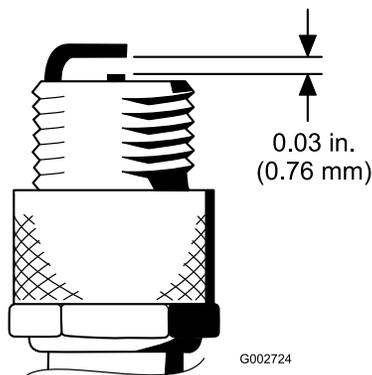

Figure 43
- Set the air gap between the center and side of the electrodes at 0.76 mm (0.030 inch) (Figure 43).